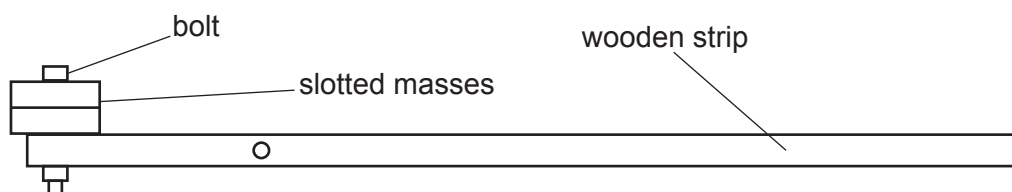

Fig. 2.2
- 2 Attach the two slotted masses to the strip using the nut and bolt, as shown in Fig. 2.2.